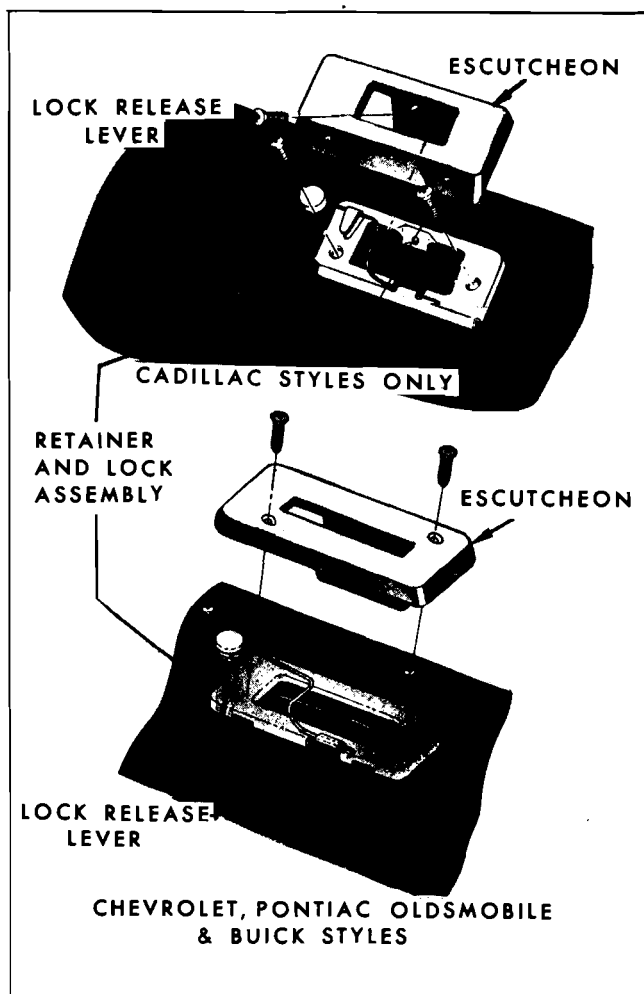

Fig. 15-36—Front Seat Back Head Restraint Retainer, Lock and Escutcheon - Standard Seats
2. Remove escutcheon attaching screws and remove escutcheon (Fig. 15-36).
3. Remove retainer and lock attaching screws and remove assembly (Fig. 15-36).